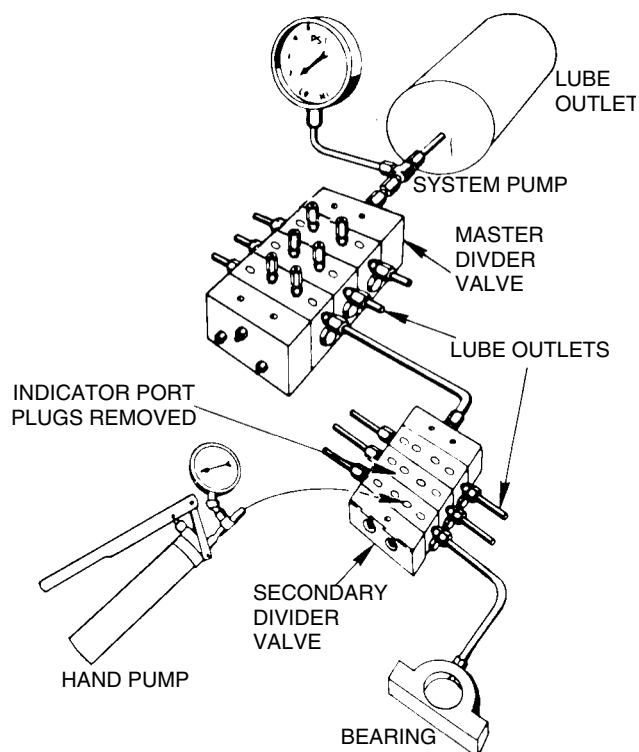

FIG. 13
6. Install manual pump into each indicator port of secondary divider valve in turn and slowly operate pump (FIG. 13). If high pressure exists, blockage has been located. Look for **crushed line, tight bearing, improperly drilled fittings and/or lube inlet port**. Correct as necessary.